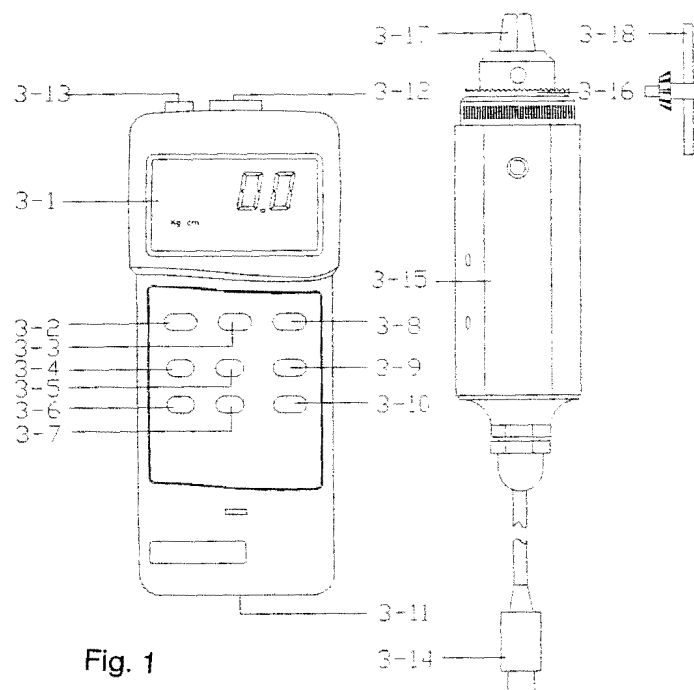

Fig. 1
- 1) Plug in the " Sensor Cable Plug " (3-14, Fig. 1) to meter's " Sensor Input Socket " (3-12, Fig. 1).
- 2) Power on the meter by push the " Power Button " (3-2, Fig. 1).
- 3) Push the " Sensor Type Button " (3-8, Fig. 1) to check if the meter's sensor type is same as the external torque sensor.
Push the " Unit Button " (3-5, Fig. 1) to select the unit Kg-cm, LBf-inch or N-cm (Newton-cm).
Push the " Resolution Button " (3-7, Fig. 1) to select the High resolution or Low resolution.
The " Fast/Slow Button " (3-10, Fig. 1) is used to select the fast sampling time or slow sampling time.
7) To connect the "Cramp" (3-17, Fig. 1) to the measured installation and use the "Opinion" (3-18, Fig. 1) to lock the "Gear" (3-16, Fig. 1). Ref. Fig. 2 & Fig. 3.
Before the measurement, if the meter not show zero value, it can push the " Zero Button " (3-9, Fig. 1) to tare the display value, the LCD will change to zero value.
During the measurement, push the " Peak Button " (3-6, Fig. 1), the LCD will show the " PEAK " indicator & the display will hold the peak value.
During the measurement, pushing the " Hold Button " (3-3, Fig. 1) will freeze the measured value & display will indicate " HOLD " symbol. Push the " Hold Button " again to release the data hold function.
* The DATA RECORD function displays the maximum and minimum readings. To start the DATA RECORD function, press the " Max./Min. Button " (3-4, Fig. 1) once. " REC " symbol will appear on the LCD display.
(a) Push the " Max./Min. Button " (3-4, Fig. 1) once, the " Max " symbol along with the maximum value will appear on the display.
To disable this feature, Select the memory record function during measurement, by pressing the " Max./Min. " button (3-4, Fig. 1).
The instrument features an RS232 output via 3.5 mm Terminal (3-13, Fig. 1).
- 2) Slide the Battery Cover (3-11, Fig. 1) away from the instrument and remove the battery.